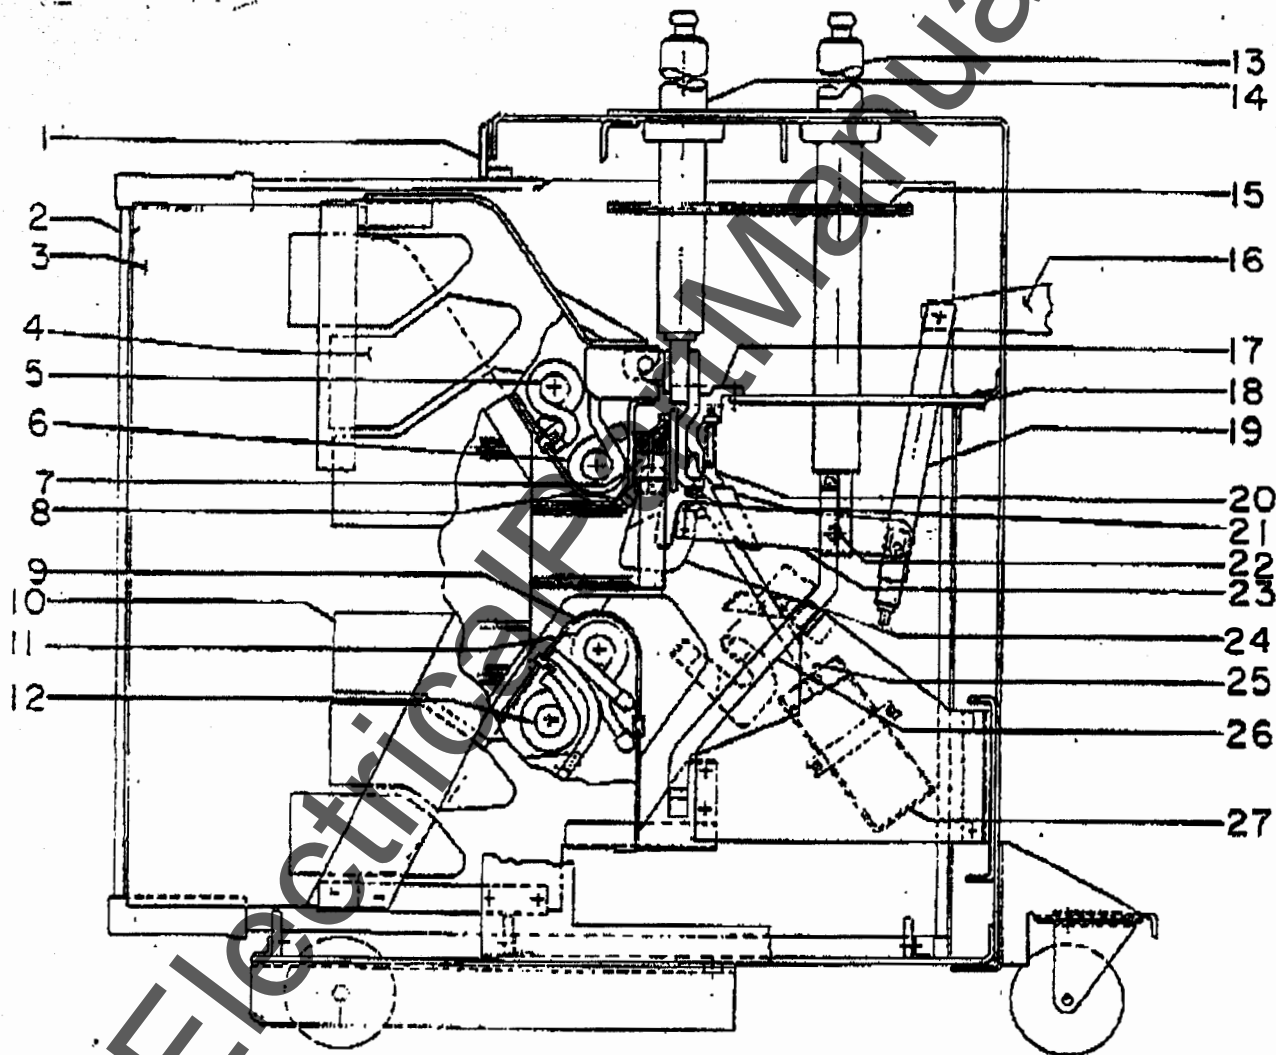

Fig. 8 (0132C2777) Cross Section of Breaker Pole Unit
As the breaker opens to interrupt a current, the arc first starts at the arcing contacts (7 & 24) Figure 8, transfers to the arc runner (8 & 9) and energizes the blow-out coils (6 & 11). This action introduces a magnetic field between the pole pieces (4 & 10) of the interrupter that forces the arc deeper into the arc chute (3). At the time the arcing contacts part a discharge of air is expelled through
Refer to Figure 25. Remove the operating rod pin (1) and set the primary contact gap at the maximum value. The clearance between the buffer block (3) and the contact arm (2) should be $1/16"$ to $3/16"$. To change this gap, add or remove shims (4) between the buffer block and the support. With the contact arm touching the buffer, the gap between the movable arcing contact (24) Figure 8 and the booster cylinder (27) should be a minimum of $1/4"$. Replace the operating rod pin.